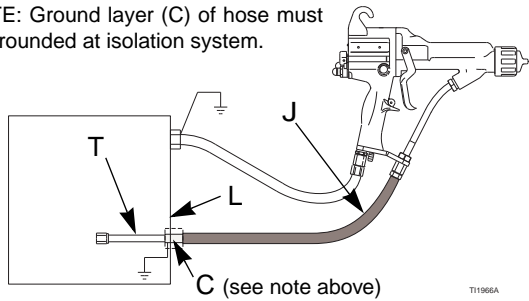

Fig. 11. Shielded Fluid Hose Connection at Non-Graco Isolated Enclosure
- b. *Non-Graco Isolated Enclosure:* Connect hose as instructed in the isolation system manual, and comply with the requirements in the **Warning** at right. Refer to FIG. 11..